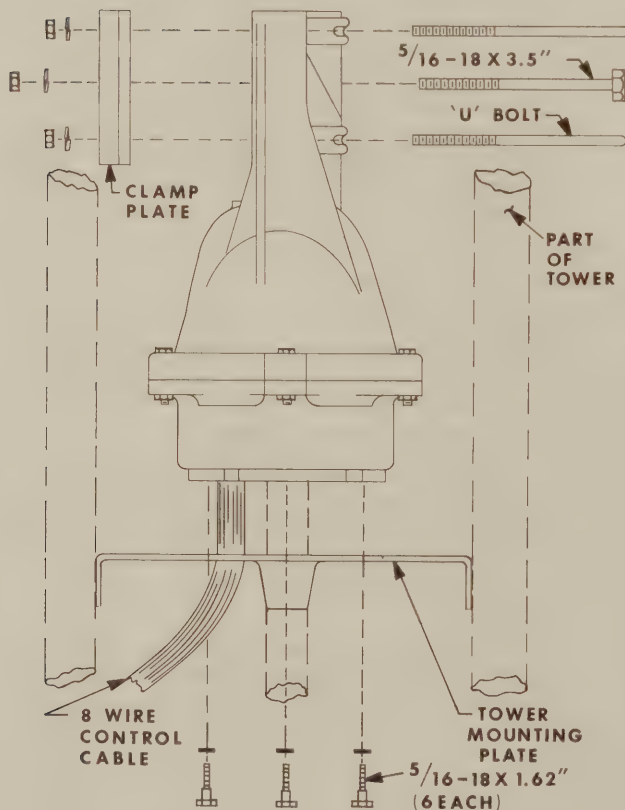

FIG. 6
3. The rotator is attached to the tower plate by means of 6 bolts and lockwashers (see figure 6). The flat tower plate must be drilled in six places using the template provided with this manual unless the tower plate is already properly drilled.
5. Trial assemble the mast to the top of the rotator using the U-bolts, nuts, and lock washers through the rotator and clamp plate as shown in Figure 6. The maximum mast diameter that may be used is 2" O. D. We recommend 1½" nominal **STEEL PIPE** with 1.9" O.D. in standard wall thickness of .145". For stacked arrays or very large beams, we recommend extra heavy duty wall thickness .200". Both steel pipes can be purchased to specification ASTM-120.
8. Drill through the antenna mast, and rotator casting using a 5/16" drill, locating on the hole in the clamp plate that is furnished. Insert the bolt through the clamp plate, mast and rotator and tighten this bolt assembly to 150 inch pounds. Refer to figure 6.